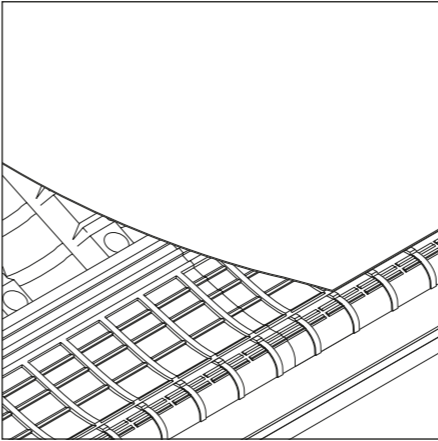

Fig 6
- 7 Lay the underlay over the support tray stopped approx. 25mm from the top of the front edge of the felt support tray. (Fig 6).